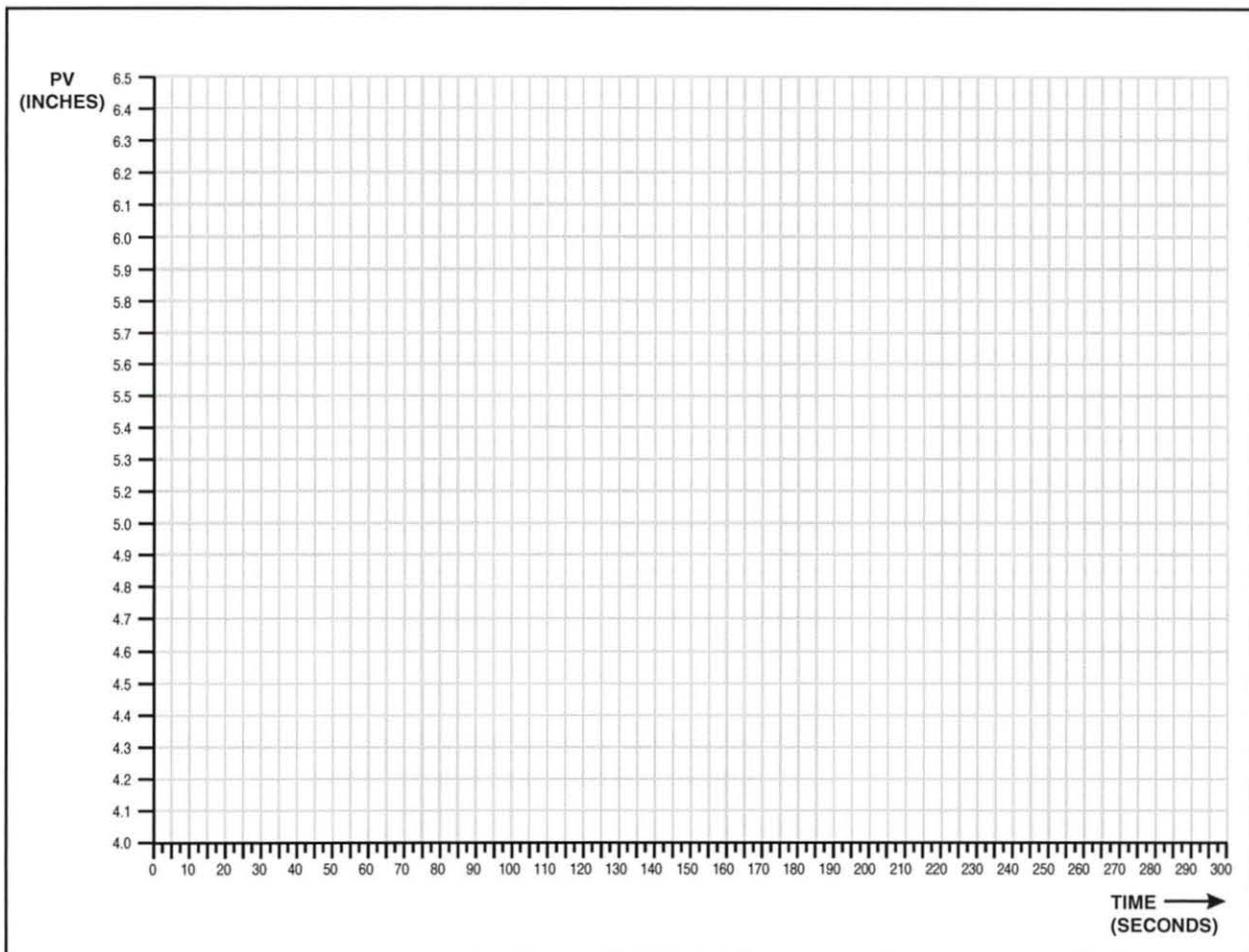

Figure 39. Graph of PV vs. Time
- A. Create a graph of PV vs. time, similar to figure 39 on a piece of graph paper.